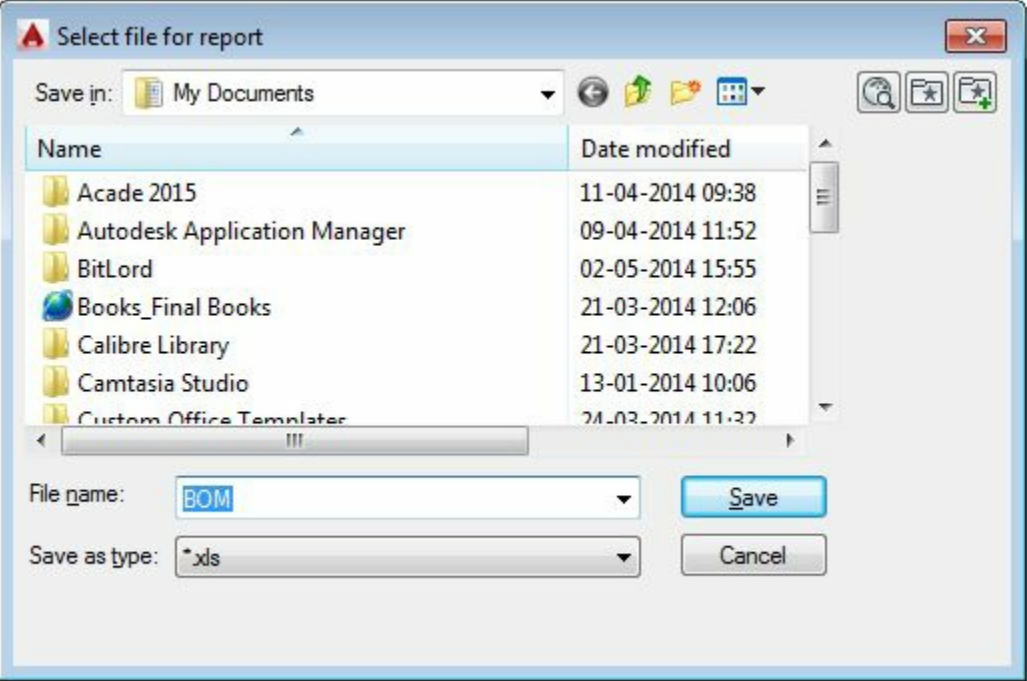

Figure-10. Select file for report dialog box
- Click on the **OK** button from the dialog box. The **Select file for report** dialog box will be displayed; refer to Figure-10.